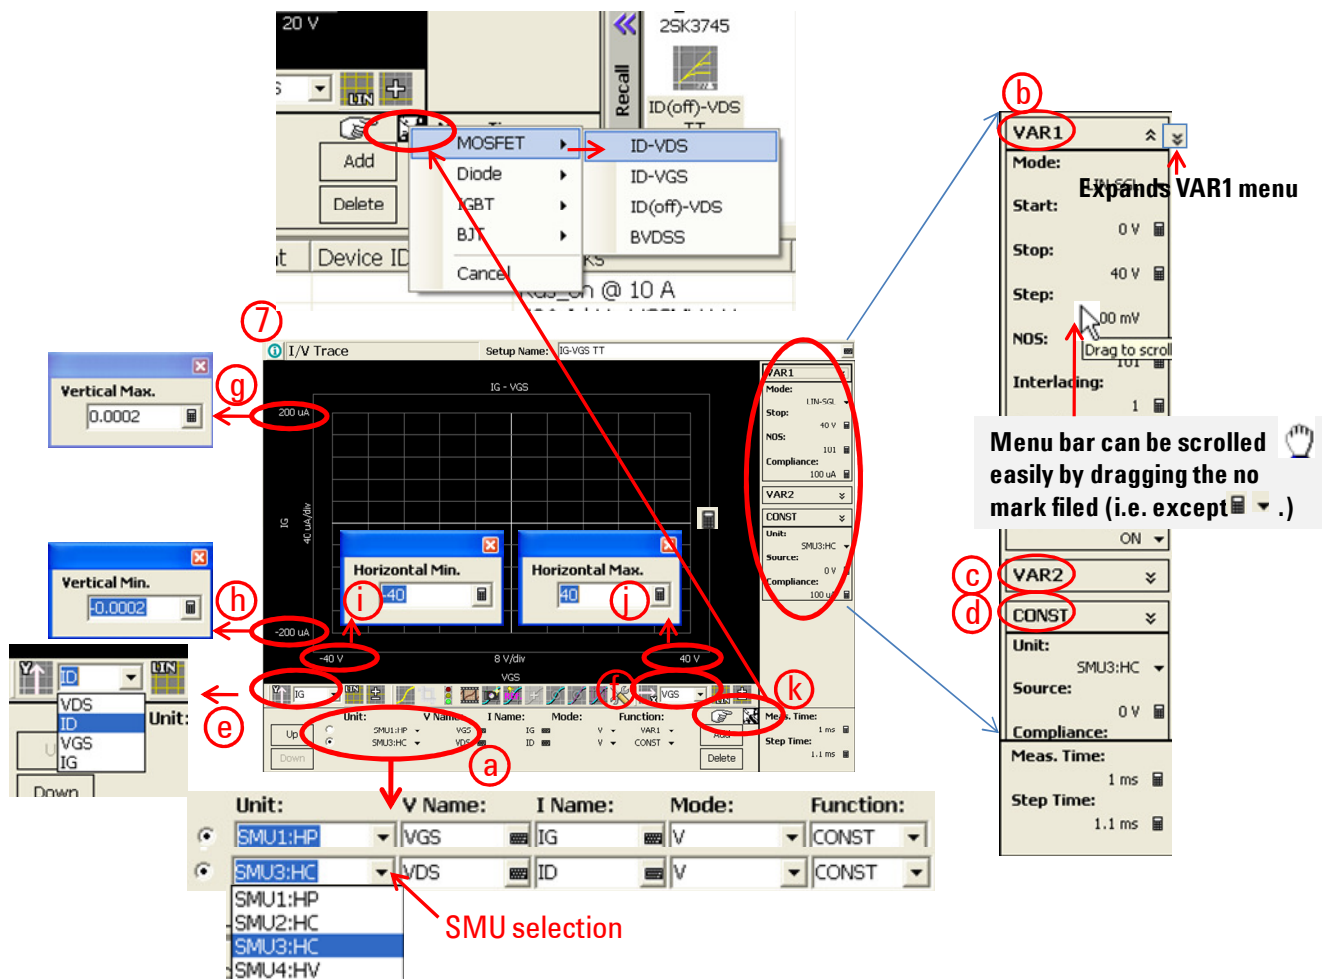

Figure 3-37. IG-VGS Tracer Test parameter setup.
Step 7. Set the test parameters shown in figure 3-37 to an appropriate one depending on your B1505A configuration and your test device.